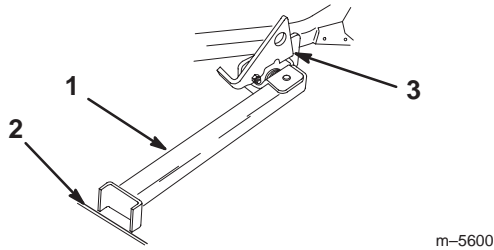

Figure 31
4. Set foot of stand on the ground and rest latch on pivot tab (Fig. 31).
- Note:** For best results, place foot of stand into seams in sidewalks or into turf (Fig. 31).
6. Drive onto stand. Stop when latch drops over tab into locked position (Fig. 31). Once onto stand, engage parking brake. Shut off engine.